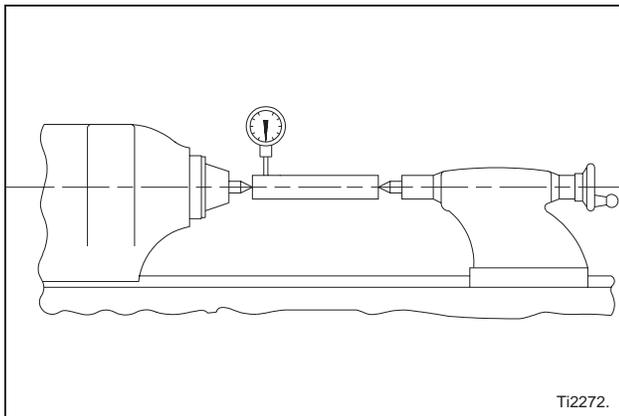
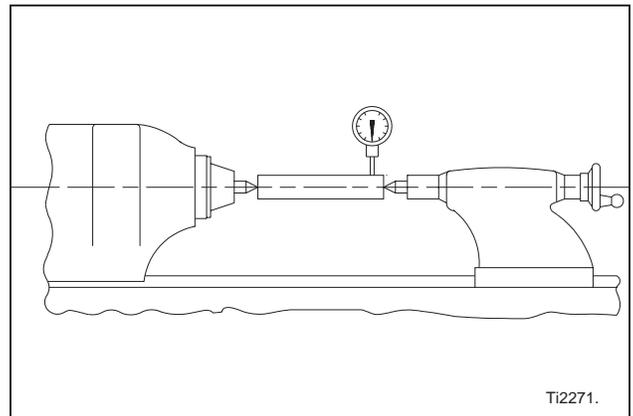

Figure 6.51 - Vertical Alignment
Figure 6.52 - Vertical Alignment
20. Position the indicator to touch the diameter of the test arbor at the headstock end as close to the arbor centerline as possible. Refer to Figure 6.51 .
- d) Without moving the indicator or turning the test arbor, reset the indicator dial to zero (0).
22. Move the machine carriage (Z axis) toward the tailstock a distance of six (6) inches [152.4 mm] to position the indicator as shown in Figure 6.52 .